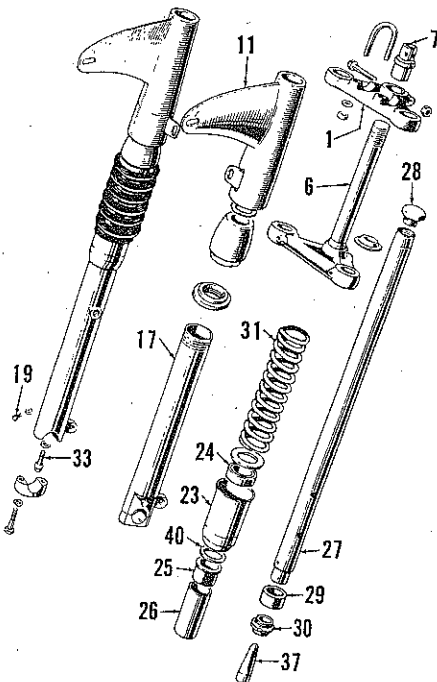

Fig. TM1-16—Exploded view of T20M and T20S/H front suspension unit. Refer to Fig. TM1-15—for legend.
The front suspension used on T20M and T20S/H is shown in Fig. TM1-16. Capacity of each unit is 200cc (1/2-pint). Unit is drained at plug (19) and refilled at cap nut (28). Oil should be drained and service with same grade of oil as used in engine every 6000 miles.